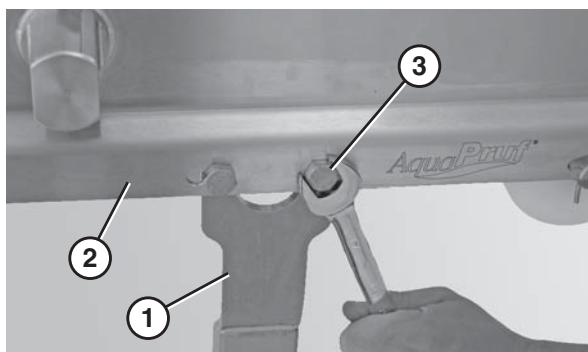

Figure 17
2. Attach the non-quick release side of the stand (Figure 17, item 1) to the MOTOR SIDE of the conveyor (Figure 17, item 2) using two M10-1.5 x 12mm hex head cap screws (Figure 17, item 3).